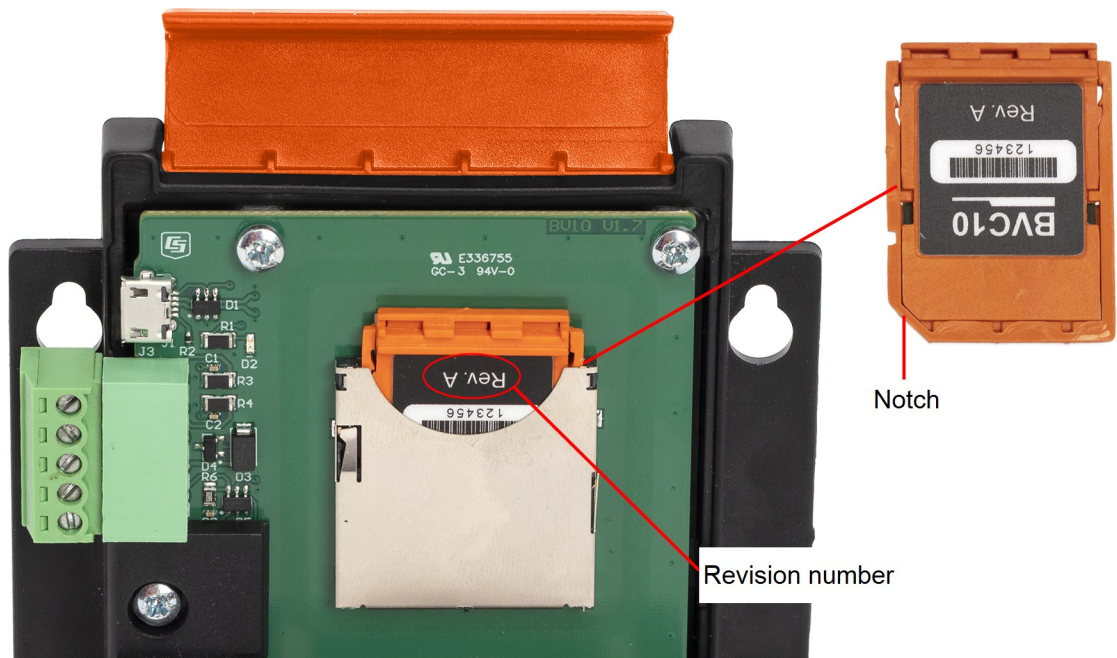

Figure 9-1. Card notch and correct orientation of the card.
- Check that the sensor card is inserted fully in its socket and in the correct orientation (see Figure 9-1 [p. 29]).
- Sensor card plugs into the silver card socket mounted on the motherboard (see Figure 9-1 [p. 29]).